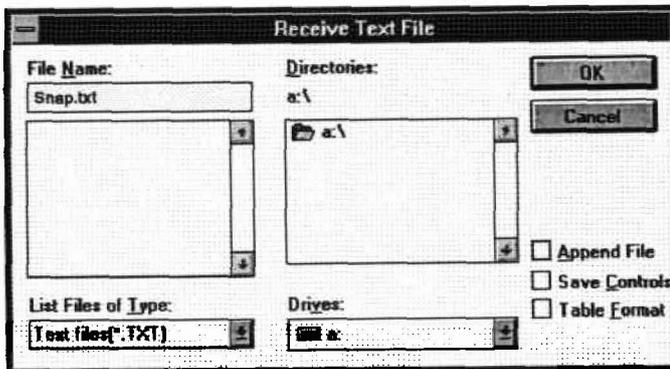

Figure 10 Receive Text File Dialog Box
4. Open the Transfers Window and select the Receive Text File option. A Receive Text File Dialog Box will open. See Figure 10.